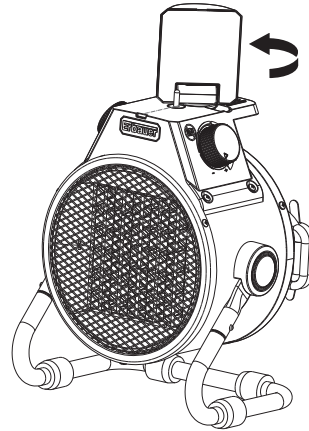

Figure 2
2. Rotate the light until ~45° on the right or on the left to direct it, like on figures 2 and 3.